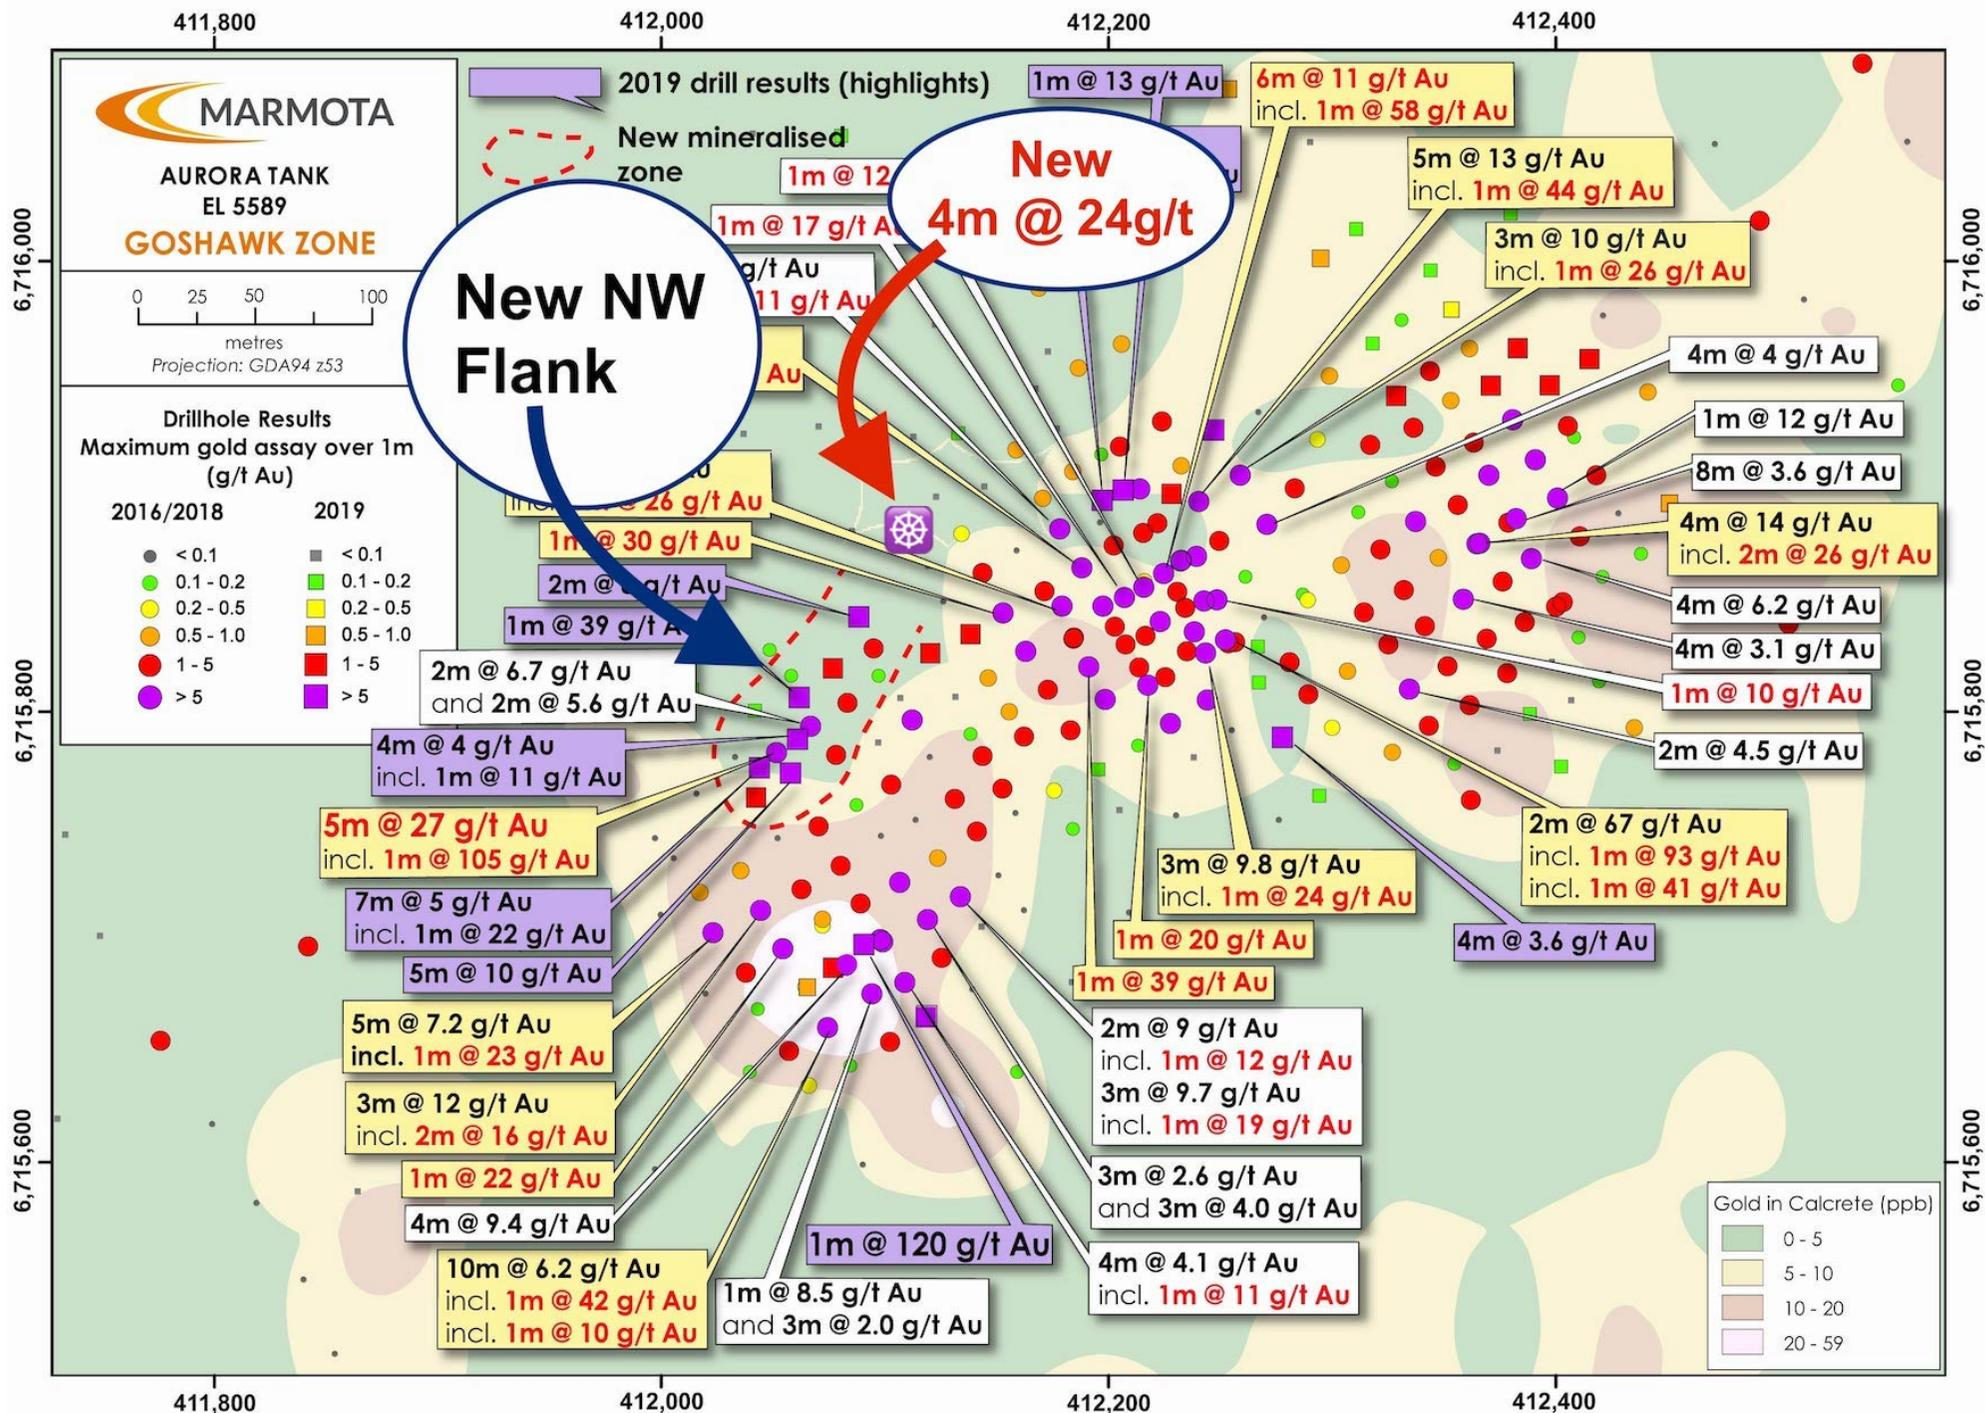

Figure 1: Aurora Tank – Location of new NW flank and New High Grade Intersection (Best downhole gold results)
- 1. Location** The intercept is located on the most outwardly extensional hole to the new NW flank [Fig. 1]. The NW flank is a new zone discovered in Marmota's most recent 2019 drilling program while following up elevated biogeochemical sampling (tree sampling) see ASX:MEU [31 July 2019 and 19 Sept 2019]